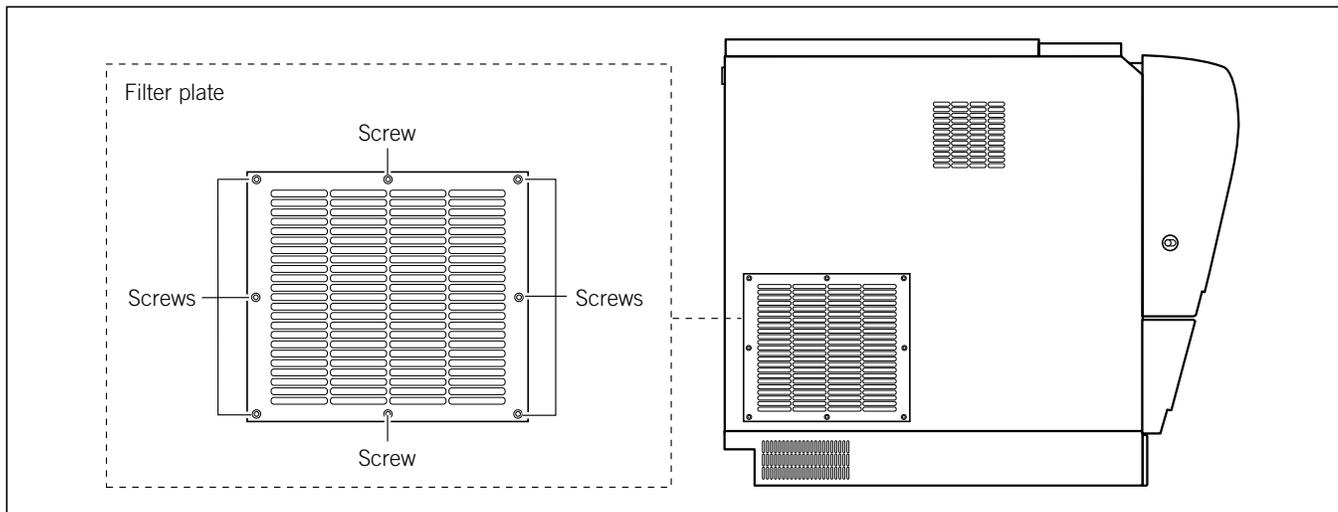

Figure 18-8. Air filter on the left side of the MegaBACE instrument.
2. On the left side of the MegaBACE instrument, use a Phillips screwdriver to turn the eight screws on the filter plate one-quarter turn counterclockwise (figure 18-8) and remove the filter plate.